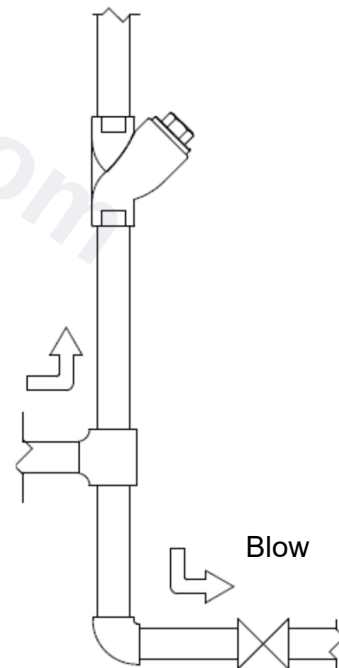

Fig. 2
3. If the product can only be installed to run the fluid from the bottom to the top, make sure to install a blow valve in order to remove the scale accumulated at the bottom of the riser pipe. [See Fig. 2 in “7. Piping Example.”]